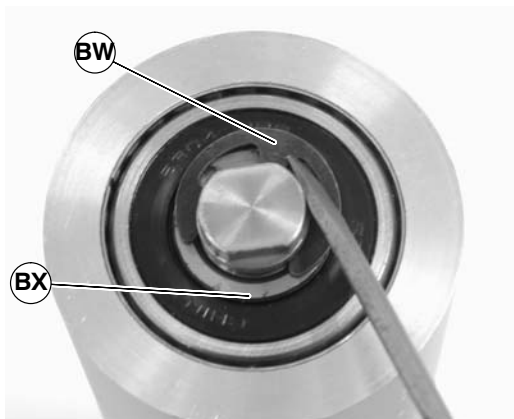

Figure 51
5. Remove the pulley shaft assembly: remove the clip ring (BW of Figure 51) and washer (BX) from one side of the pulley assembly.